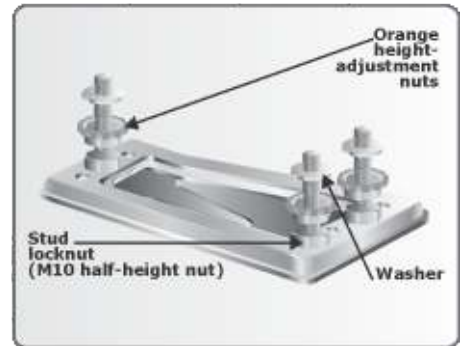

FIGURE 28.
1. Fit the orange height-adjustment nuts to the base as shown in Figure 28 to level the gearbox